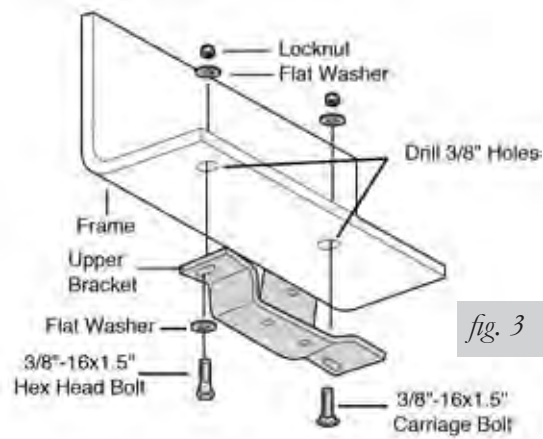

fig. 3
8. Raise the axle or lower the frame until the axle is in the normal ride height (no load) position. Install the upper bracket. You may be able to use the one or both of the existing holes from the jounce bumper bracket. If not, use the holes on each end of the upper bracket as a template to mark and drill two 3/8" diameter holes in the bottom of the frame rail (Figure 3). The holes in the upper bracket are slotted for adjustment. Install the 3/8-16x1.5" HEX HEAD bolt, flat washers and locknut in the REAR hole. Install the 3/8- 16x1.5" CARRIAGE bolt in the FRONT hole, flat washer and locknut. LEAVE LOOSE AT THIS TIME.